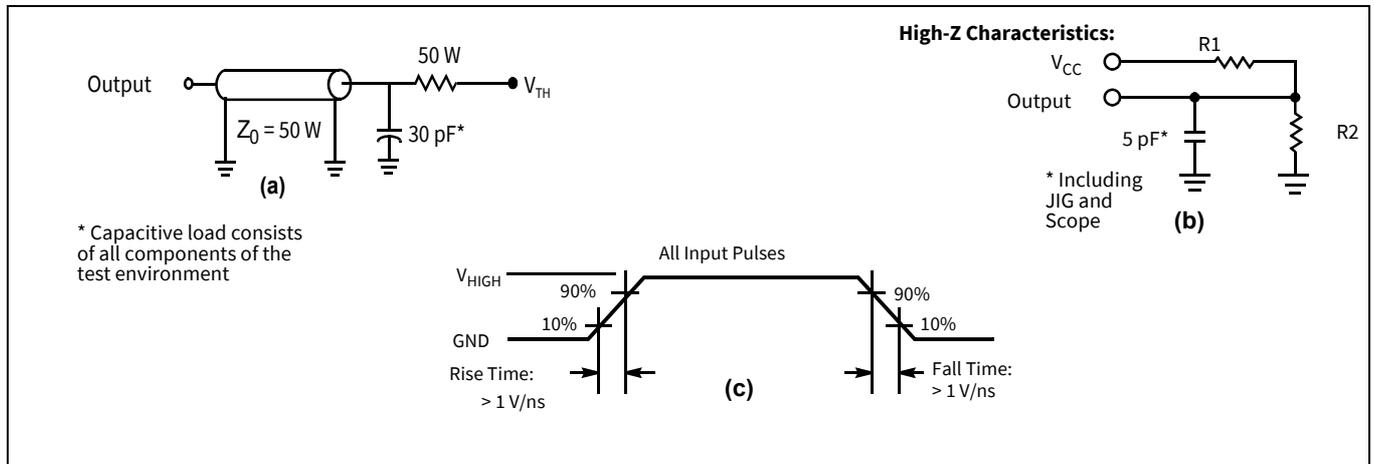

Figure 2 AC test loads and waveforms^[7]
10. Test conditions assume signal transition time (rise/fall) of 3 ns or less, timing reference levels of 1.5 V (for V_{CC} ≥ 3 V) and V_{CC}/2 (for V_{CC} < 3 V), and input pulse levels of 0 to 3 V (for V_{CC} ≥ 3 V) and 0 to V_{CC} (for V_{CC} < 3 V). Test conditions for the read cycle use output loading shown in part (a) of **Figure 2**, unless specified otherwise.
13. t_{HZOE}, t_{HZCE}, t_{HZWE}, t_{LZOE}, t_{LZCE}, and t_{LZWE} are specified with a load capacitance of 5 pF as in (b) of **Figure 2**. Transition is measured ±200 mV from steady state voltage.